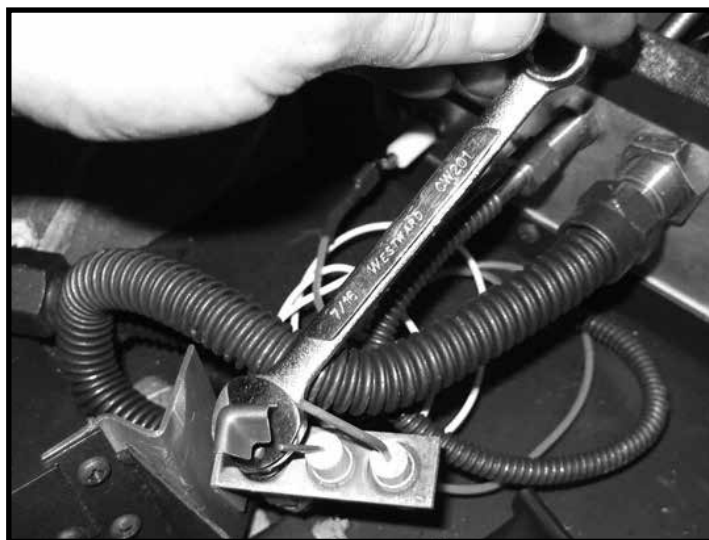

Figure 19: Loosening the pilot head.
8. With a 7/16” wrench loosen the pilot head on the pilot assembly by a half-turn (Figure 19)